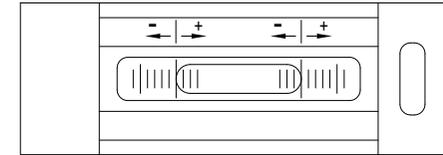
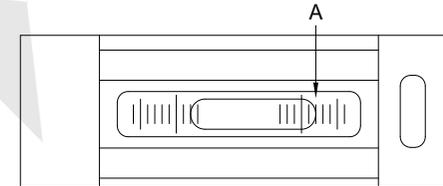
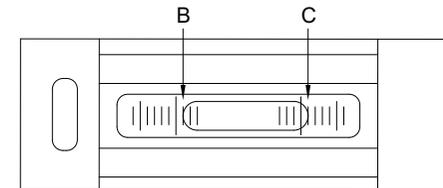

Fig.2
Fig.3
Fig.4 (Turn 180°)
3. In order to get accurate result, suggest to turn level 180° to measure. Right side is positive scale, left side is negative scale (fig.2). After the bubble stops oscillating (about 40s), read A on the scale (Fig.3). Turn level 180°, slide it at the same position of the surface. Read B on the scale (fig. 4). The final reading is (A+B)/2.
Appended: In case of zero deviation (A-C, Fig.3 and Fig. 4) is more than 1 DIV. after hit or other external force, please return to INSIZE to adjust.